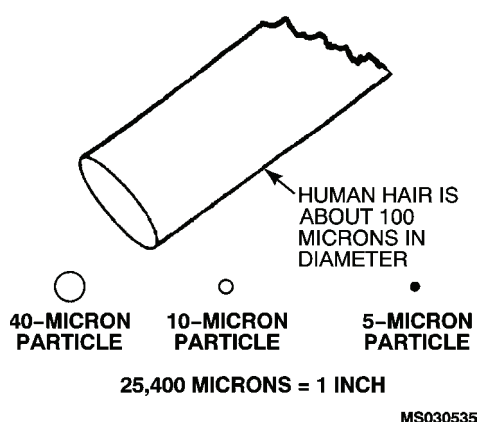

Figure 2-2. Micron Particle Size.
(2) Free water. Free water can be removed from fuel by adequate filtering. It can be seen in the fuel as a cloud, an emulsion, droplets or, in large amounts, as water on the bottom of a tank, sample container, or filter/separator. Free water, either fresh or salty, can freeze in the aircraft fuel system, can make certain aircraft instruments malfunction, and can corrode the components of the aircraft fuel system. (Salt water is more corrosive than fresh water.) Ice in an aircraft fuel system can make the engines fail.
b. Solids. Sediment from tanks, pipes, hoses, pumps, people, and the air contaminates fuel. The most common elements of the sediment found in aviation fuels are bits of rust, paint, metal, rubber, dust, and sand. Sediment is classified by particle size as shown in figure 2-2.
(1) Coarse sediment. Particles classified as coarse are 10 microns in size or larger (25,400 microns = 1 inch). Coarse sediment settles out of fuel easily, and it can also be removed by adequate filtering. Particles of coarse sediment clog nozzle screens, other fine screens throughout the aircraft fuel system and, most dangerously, the fuel orifices of aircraft engines. Particles of this size also get wedged in sliding valve clearances and valve shoulders where they cause excessive wear in the fuel controls and fuel-metering equipment.
(2) Fine sediment. Particles classified as fine are smaller than 10 microns in size. Removing fine sediment by settling or filtering is effective only to a limited degree; the particles can, however, be centrifuged out in a rotating chamber. Fine sediment accumulates in fuel controls and forms a dark shellac-like surface on the sliding valves. It can also form a sludgelike material that makes fuel-metering equipment operate sluggishly. Particles of fine sediment are not visible to the naked eye, but they do scatter light. This light-scattering property makes them show up as point flashes of light or as a slight haze in the fuel.